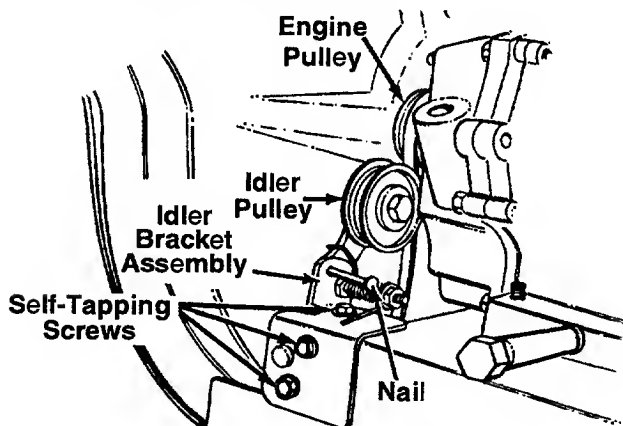

Figure 20
5. Remove the idler pulley bracket as follows. (See Figure 20.)
6. Remove the hex bolt and lock washer from the engine pulley. See Figure 20. Slip the engine pulley off the engine shaft, and remove the belt from the pulley.